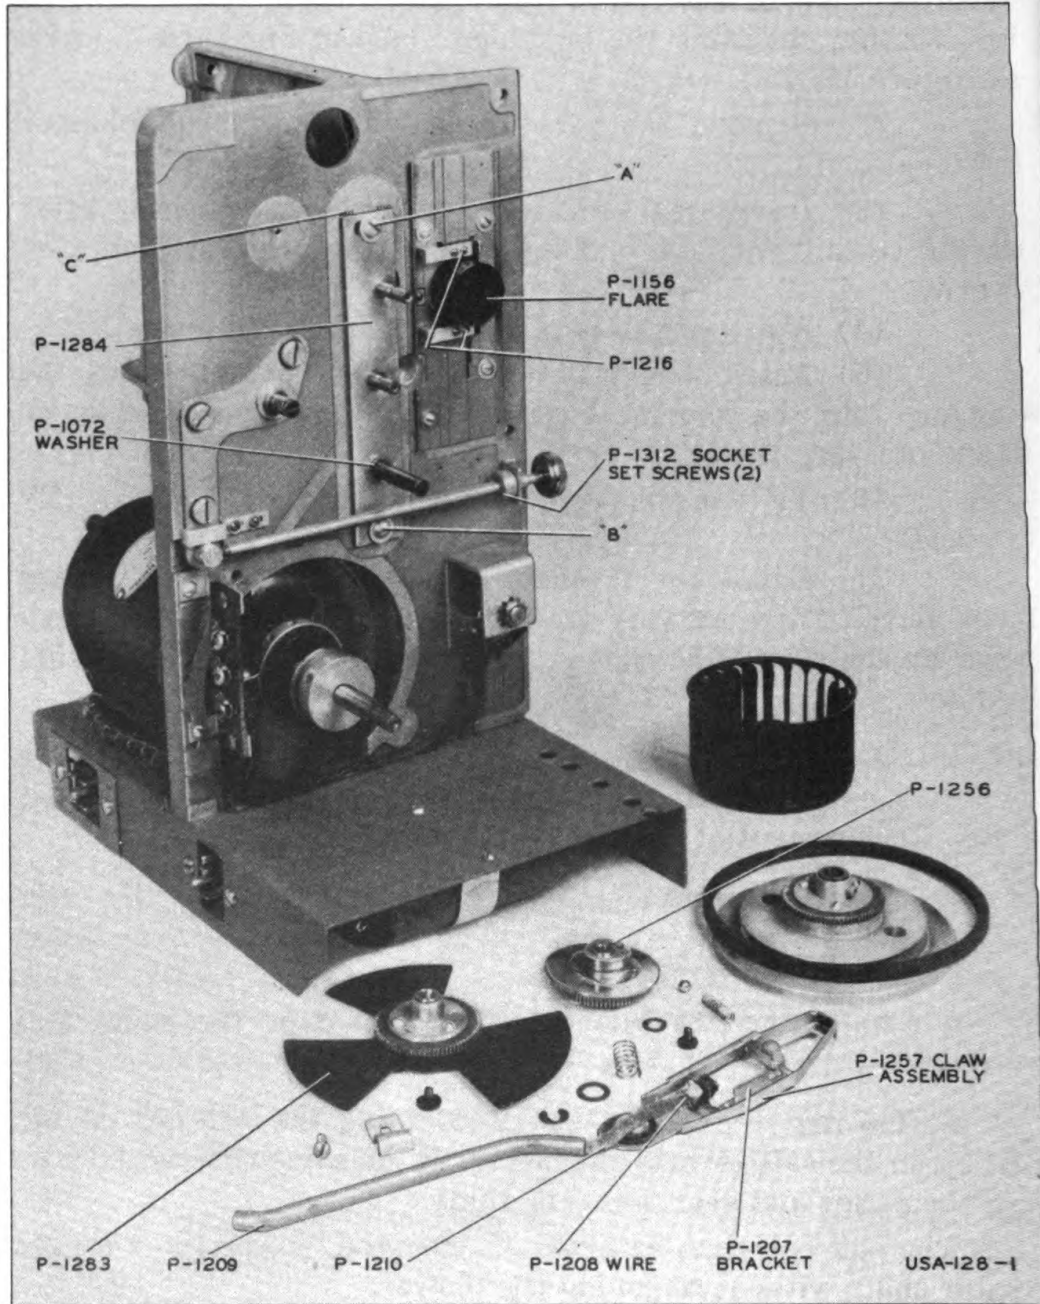
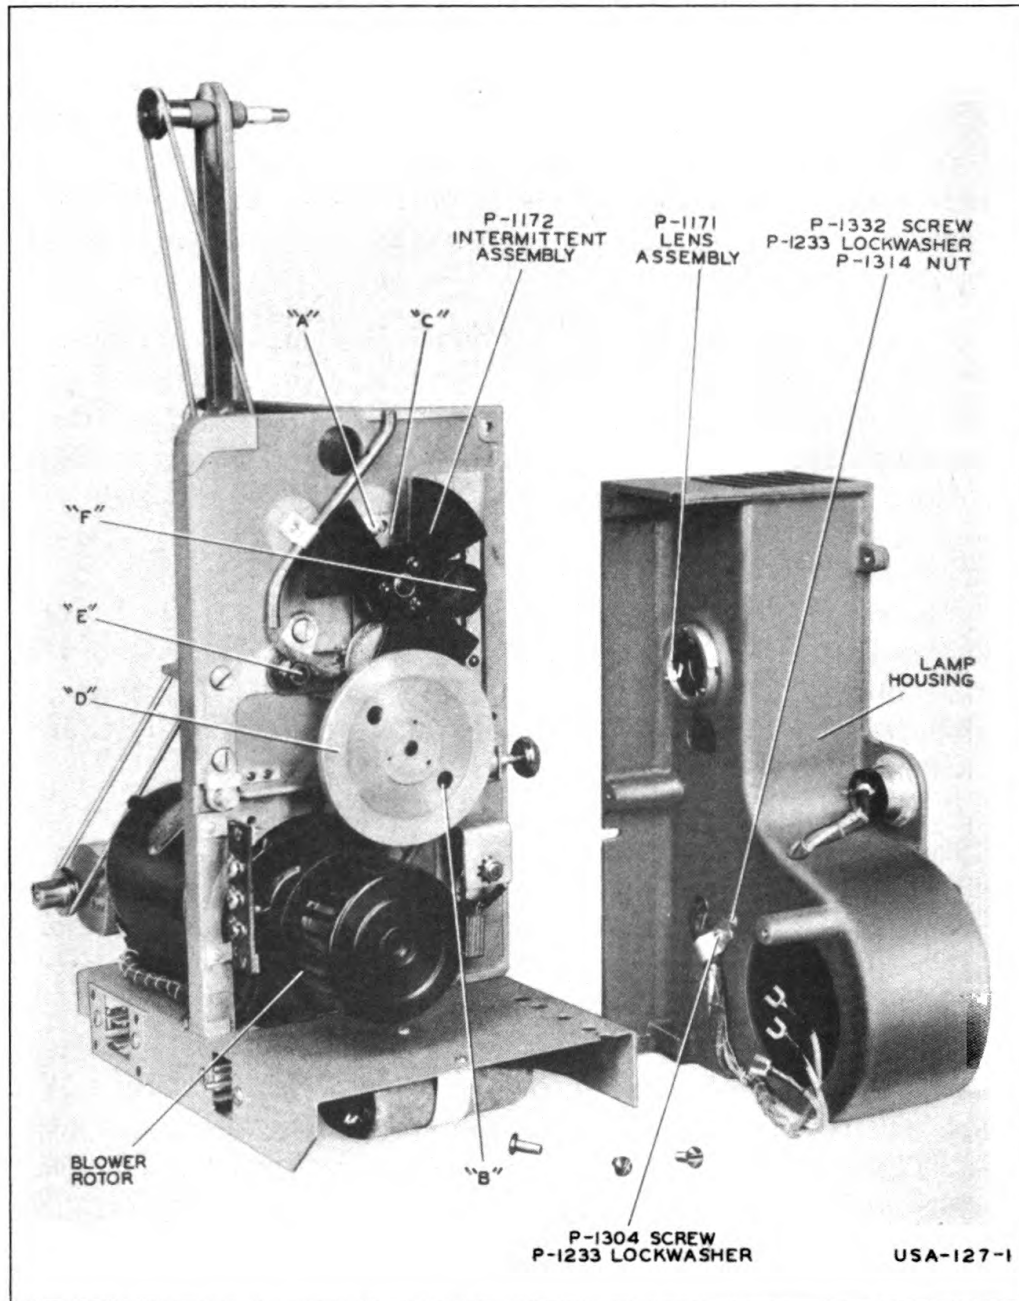

Figure 17—Projector—Rear View—Intermittent Mechanism Removed
Figure 18—Projector—Rear View—Lamp Housing Removed
a. *Positioning Intermittent Body.*—Line up the centers of the framing pivot, intermittent eccentric, cam shaft, and the adjusting screw for the in-and-out cam in a horizontal position. When all of these centers are lined up, the claw will be in the half way down position of the stroke. (See Figure 17.)
(1) Loosen screws “A” and “B” of Figure 17. Figure 18 shows parts in place and screw “A” may be seen between the shutter blades. The lower screw (“B” of Figure 17) may be reached through hole “B” (Figure 18) with a medium size screwdriver.
(2) Move gear plate (“C” of Figure 18) as far to the right as possible then tighten screw “A” temporarily.
(3) Place a strip of film in the gate and close the gate.
(4) Rotate the flywheel (“D” of Figure 18) by hand (clockwise) and observe the claw action to see if the claw moves the film down each time it moves downward.
(5) If not, again loosen screw “A” and move the gear plate to the left one division of the scale (“C” of Figure 17) which will be seen stamped into the frame just above the gear plate. Tighten screw “A” and again rotate the flywheel and check for movement of the film by the claw.
(6) If the claw still does not engage the sprocket holes in the film, move the gear plate another scale division to the left and repeat the test.
(7) When the position of the gear plate is found where the claw first engages the film sprocket holes, move the plate to the left an additional two and one-half scale divisions and tighten both screws to hold it securely in place.
*c. Lateral adjustment of Claw.*—Adjust the lateral position of the claw when it is in the half way down position by means of the eccentric pivot “E” (Figure 18) (to permit adjustments of the eccentric pivot loosen the two set screws “B” of Figure 14) until the claw clears the outside edge of the sprocket holes in the film by about .012 of an inch. To aid in judging this distance, it may be helpful to know that the radius of the sprocket hole corners is .010 of an inch. Therefore the claw should be positioned so that it is just inside the straight portion of the sprocket hole and just clears the curved corner of the hole. *The eccentric pivot must be in its lowest position before starting this adjustment.* The pull down claw must engage the sprocket holes at all times during the downward travel and the film must run smoothly when using the framing adjustment in any position.
(1) Remove the flywheel (“D” of Figure 18) by loosening the two Allen set screws and forcing the belt off the pulley while turning the flywheel and pulling it from the shaft. (Refer to paragraph 26 *d.*)
*b.* With the pull down claw set in the position where it is ready to move downward, assemble the shutter blade on the three screws with the leading edge of the wide blade at the center of the flare ("F" of Figure 18.)